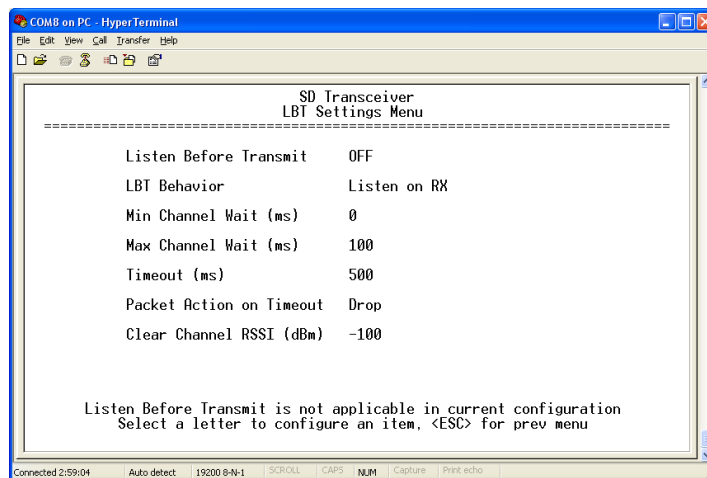

Figure 18. Listen Before Transmit (LBT) Settings Menu
LBT can be configured to behave in one of two ways; either *listen on the radio’s transmit frequency (TX)* or *listen on the radio’s receive frequency (RX)*. Typically, Remote radios are configured to **Listen on RX** (the default selection) to avoid collisions with the Master unit. In peer-to-peer configurations, **Listen on TX** may be preferred. Optimal choices depend on the data transmission characteristics of the connected system. This, and all other LBT parameters, are set using the LBT Settings Menu (Figure 18).